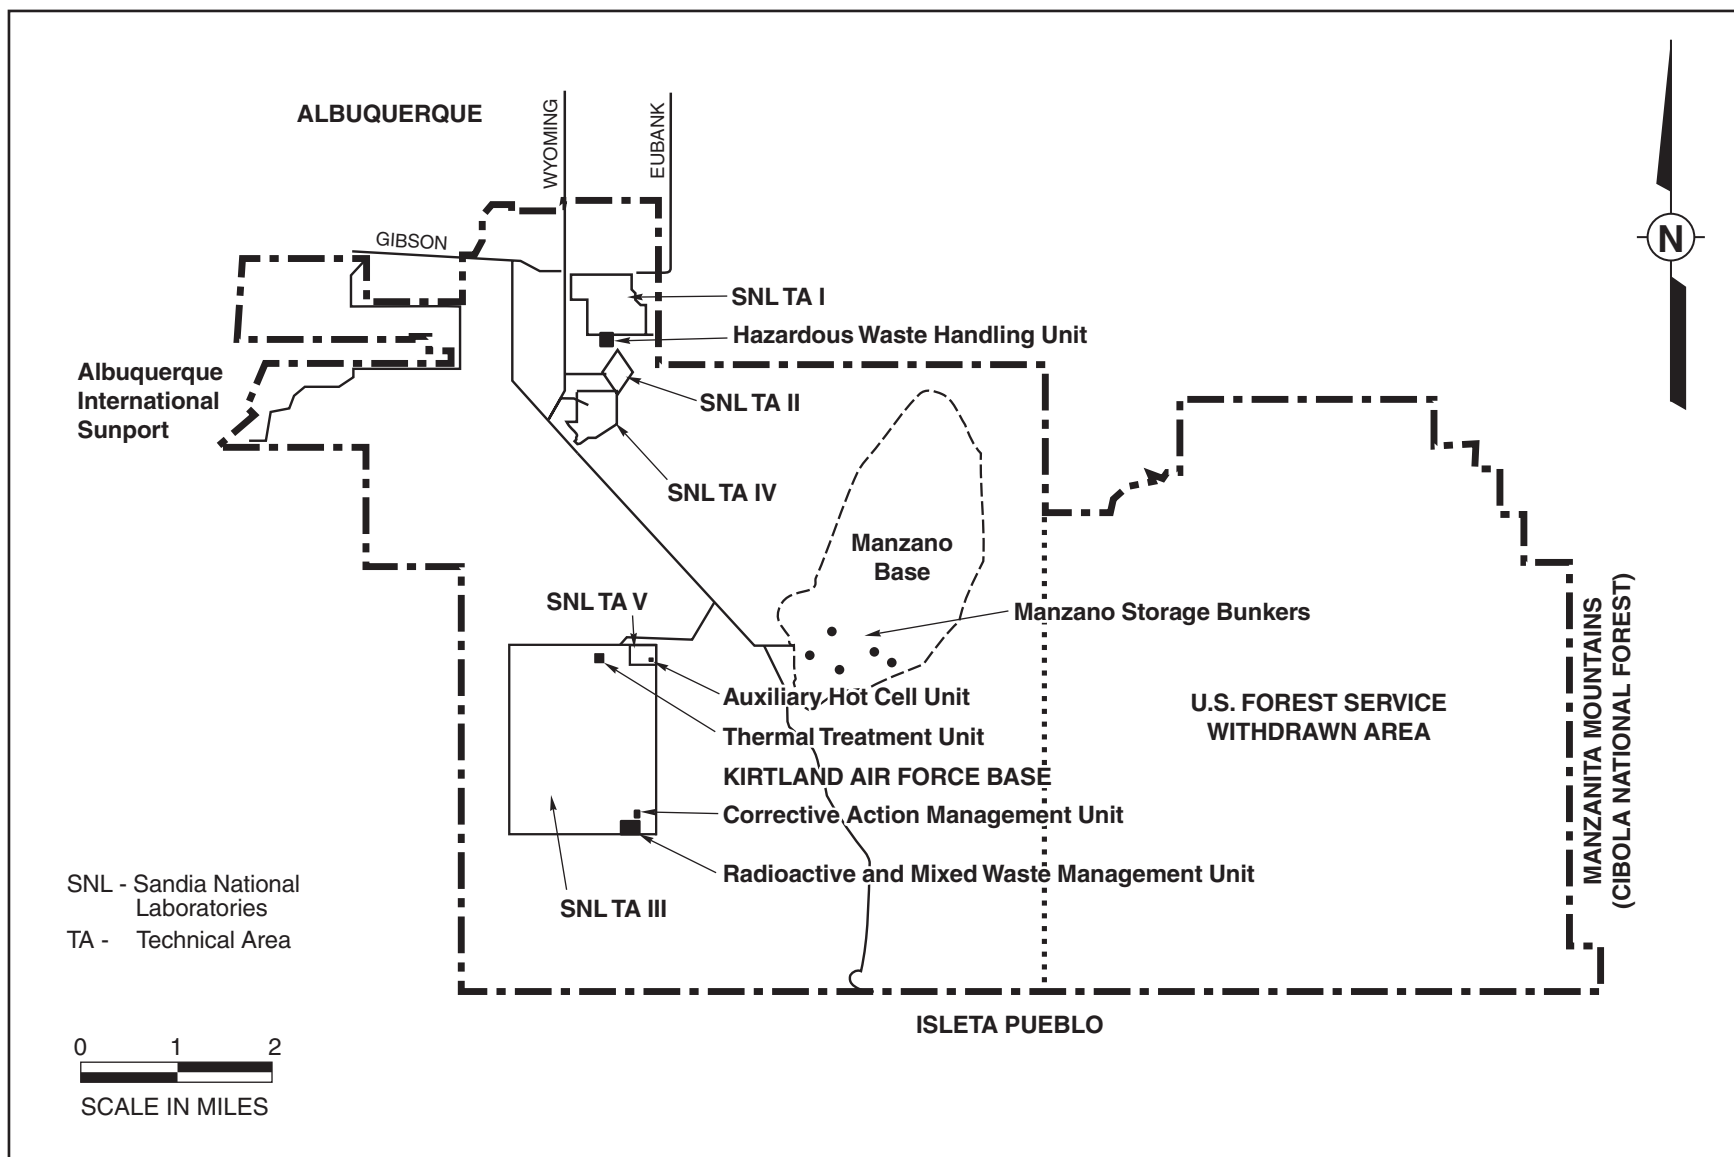

Figure 2
- Figure 2: Technical Areas and Permitted Hazardous and Mixed Waste Management Units at the Facility